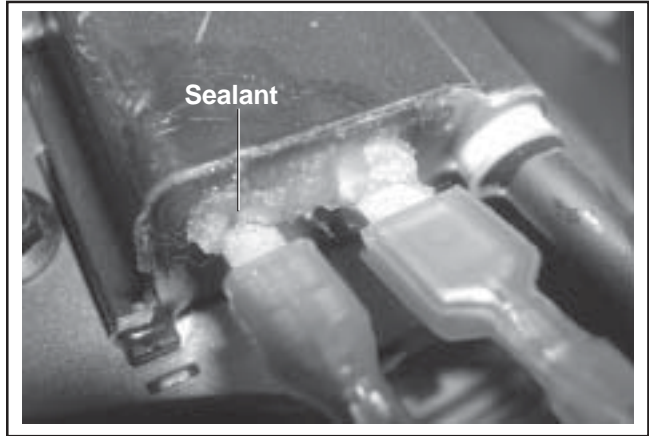

Figure 11-52. Sealant Applied to Terminals.
**NOTE:** If the wires were disconnected from the ignition modules on engines with SMART-SPARK™, reattach the leads and seal the base of the terminal connectors with GE/Novaguard G661 (see Section 2) or Fel-Pro Lubri-Sel dielectric compound. The beads should overlap between the terminals\* to form a solid bridge of compound. See Figure 11-52. Do not put any compound inside the terminals.